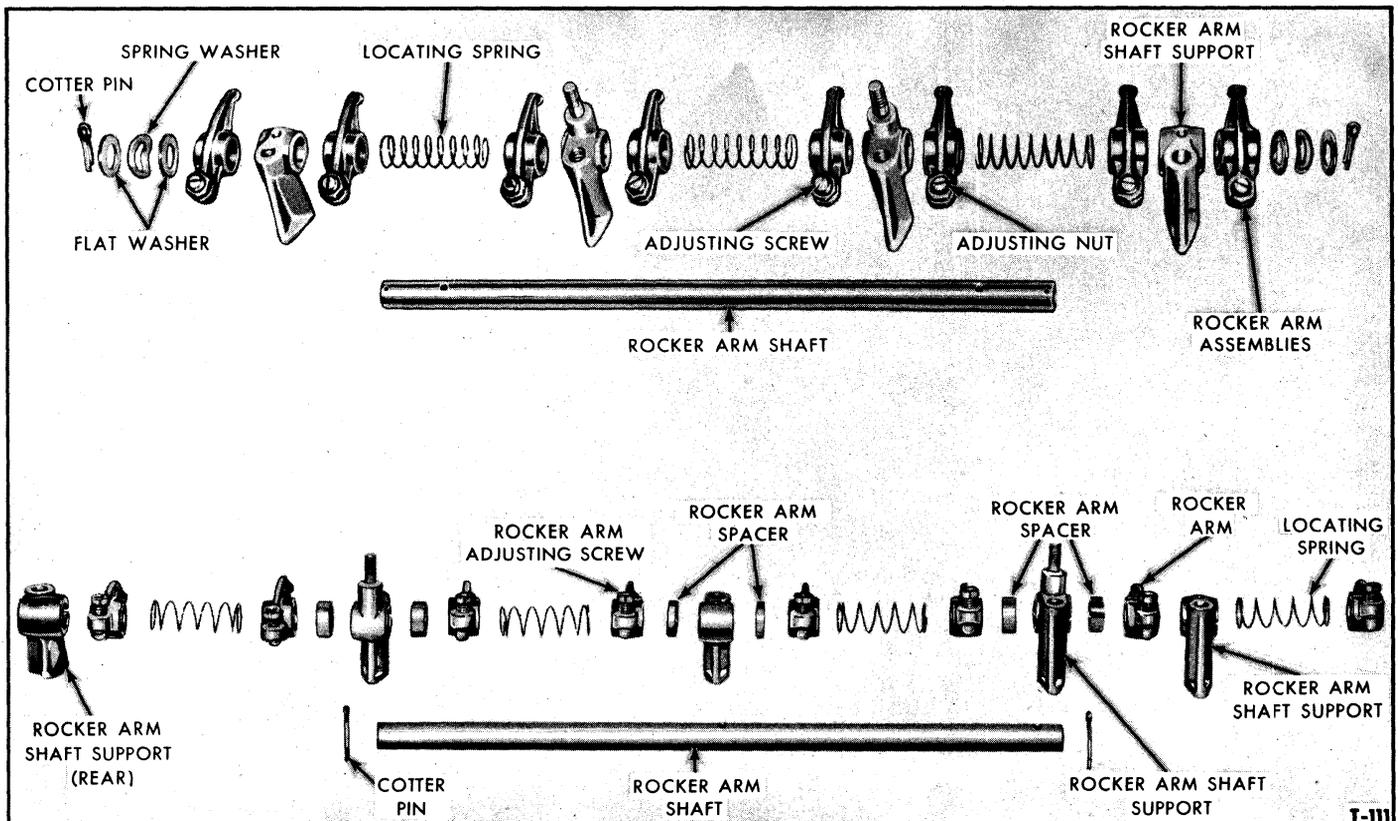

Figure 13—Rocker Shaft Assemblies
3. Remove the cotter pin, flat washers and spring washer from each end of the rocker shaft, Figure 13.
NOTE: Diesel engines are provided with a rocker arm spacer on each side of No. 2, 3 and 4 rocker shaft supports, Figure 13. The narrower spacers are used at support No. 3.
3. Assemble the rocker arms, springs and brackets in the sequence shown in Figure 13.
NOTE: Diesel engines use six spacers to locate the rocker arms. Make certain that the two narrower spacers are installed at No. 3 support and the wider spacers are at No. 2 and 4 supports, Figure 13.